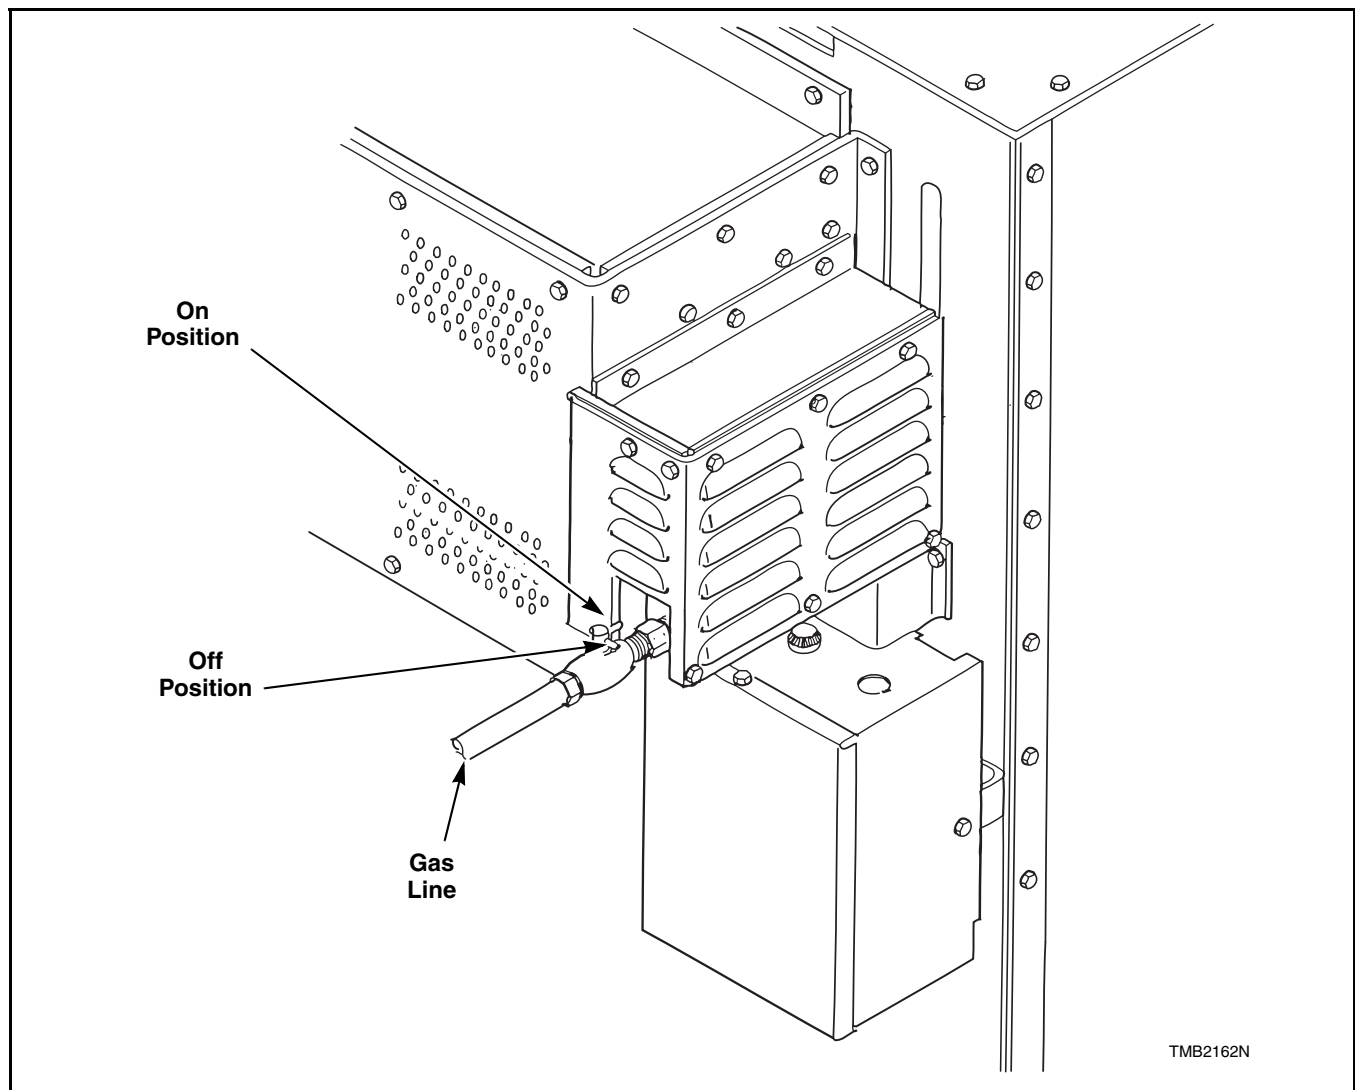

Figure 12
1. Turn gas shut-off valve to “on” position (handle parallel with gas line). Refer to *Figure 12*.
5. To remove tumbler from service, disconnect electrical service and turn gas shut-off valve to “off” position (handle at right angle to gas line). Refer to *Figure 12*.